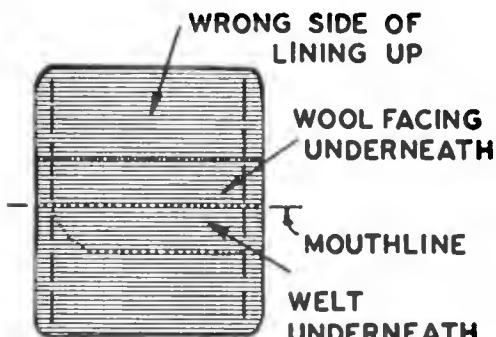

Fig. 134. Adding the under lining.
- Wool facing is placed next to the coat on the upper edge of the mouthline (Fig. 134).
- Raw edges meet the raw edge of the welt (Fig. 134).
- Baste a  $\frac{1}{8}$ ,  $\frac{3}{16}$ , or  $\frac{1}{4}$ -in. seam, depending on the bulkiness of the wool (Fig. 134).